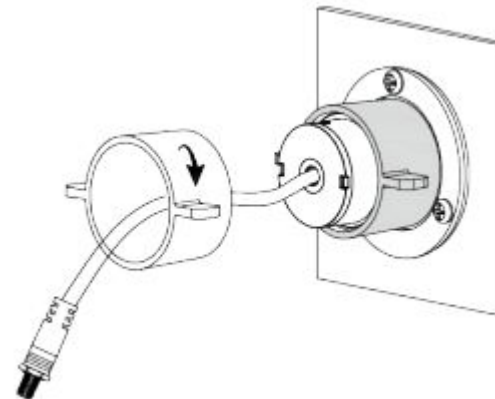

Figure 2-7
Step 4 Install the locking tube into the mount to secure the lens assembly. See Figure 2-7